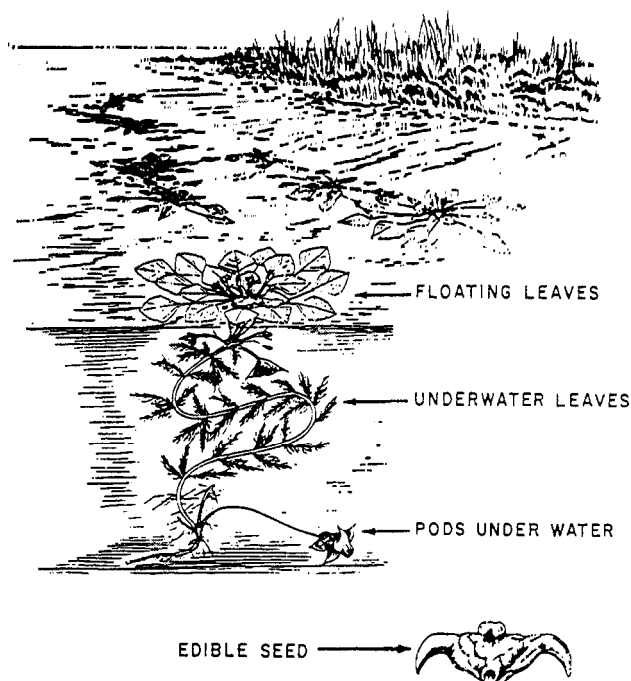

Figure 6-8.—Water chestnut.
3. **WATER CHESTNUT.** The water chestnut is a native of Asia, but it has spread to both Tropical and Temperate areas of the world, including North America, Africa, and Australia. It is found as a free-floating plant on rivers, lakes, and ponds in quiet water. The plant covers large areas wherever it occurs and has two kinds of leaves—the submerged leaves that are long and rootlike and the feathery and the floating leaves that form a rosette on the surface of the water. The nuts borne beneath the water are an inch or two wide with strong spines that give them the appearance of a homed steer. The seed within the horny structure may be roasted or boiled. (See fig. 6-8.)